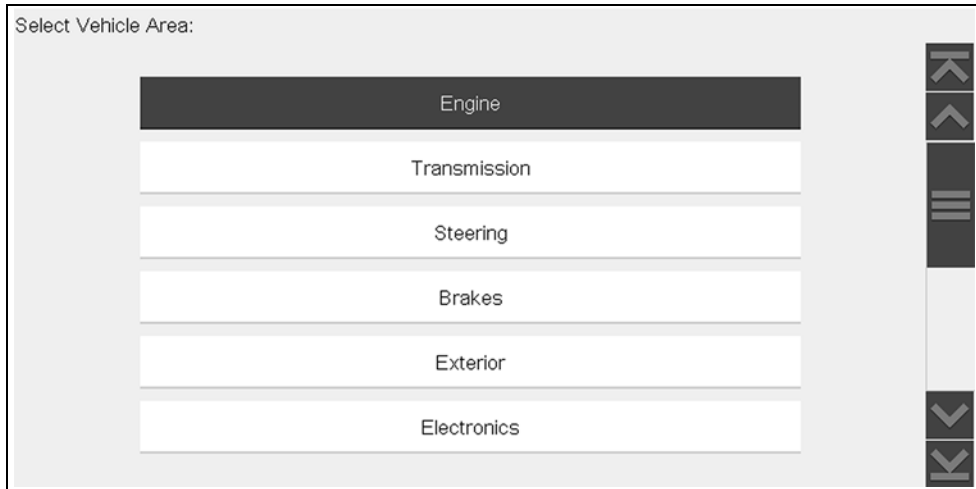

Figure 7-2
3. Select a vehicle area, (e.g. **Engine, Transmission, Brakes**, etc) (*Figure 7-2*).